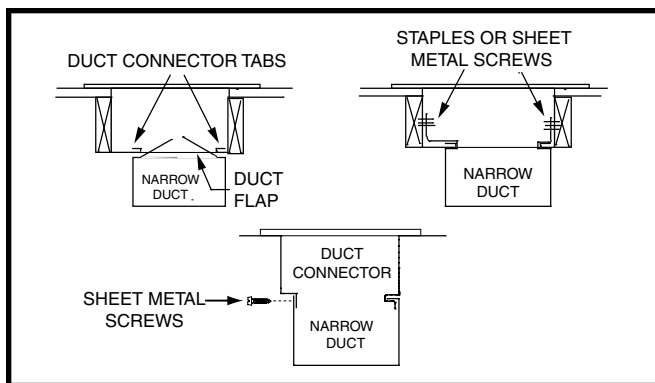

Figure 11. Narrow Ducts
- Bend the tabs on the bottom of the duct connector upwards and as tight as possible against the supply air duct. See Figure 11 \(page 11\).